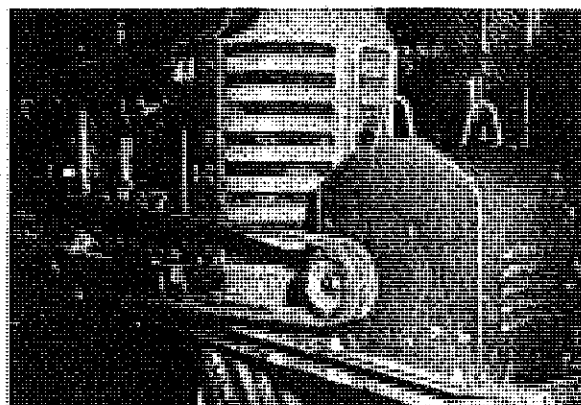

Fig. 2. Welder mounted on front end of tractor.
- a. Welder mounted rigidly to tractor (See Fig. 2) -- Bolt a framework capable of supporting welder to front end of tractor frame. Tighten belt by bolt adjustment furnished with welder. Flat belts may be used in this method. Be sure welder rotates in the proper direction.